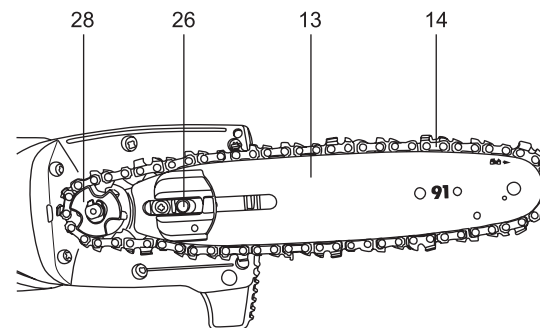

Fig. 7
5. Align saw chain (14) and the guide bar (13) assembly with the drive sprocket (28) and the mounting bolt (26). Lay the saw chain (14) around the drive sprocket (28) and then lower the guide bar (13) to install it to the mounting bolt (26). (Fig.7)